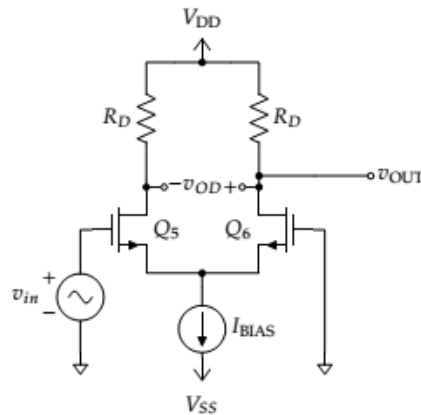

Figure 5.11: Differential amplifier connected with a single-ended input.
5. Configure the function generator to supply a 1 kHz sin wave with zero offset and connect it to v_{IN}^+ input. Ground the v_{IN}^- input. Adjust the amplitude of the v_{IN}^+ input until the output v_{OD} is 250 mV peak-to-peak. This represents a “single-ended” input and is demonstrated in figure 5.11. v_{OD} can be measured by using the subtraction feature of your oscilloscope.